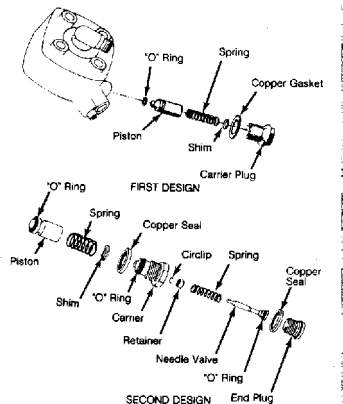

Fig. 9: Line Pressure Regulator
4) Loosen line pressure regulator nut. Remove shims, spring(s) and plunger. Raise system pressure by adding shims; lower pressure by removing shims. Be sure "O" rings are in good condition. If piston is scored or damaged, complete fuel distributor must be replaced. See Fig. 9.